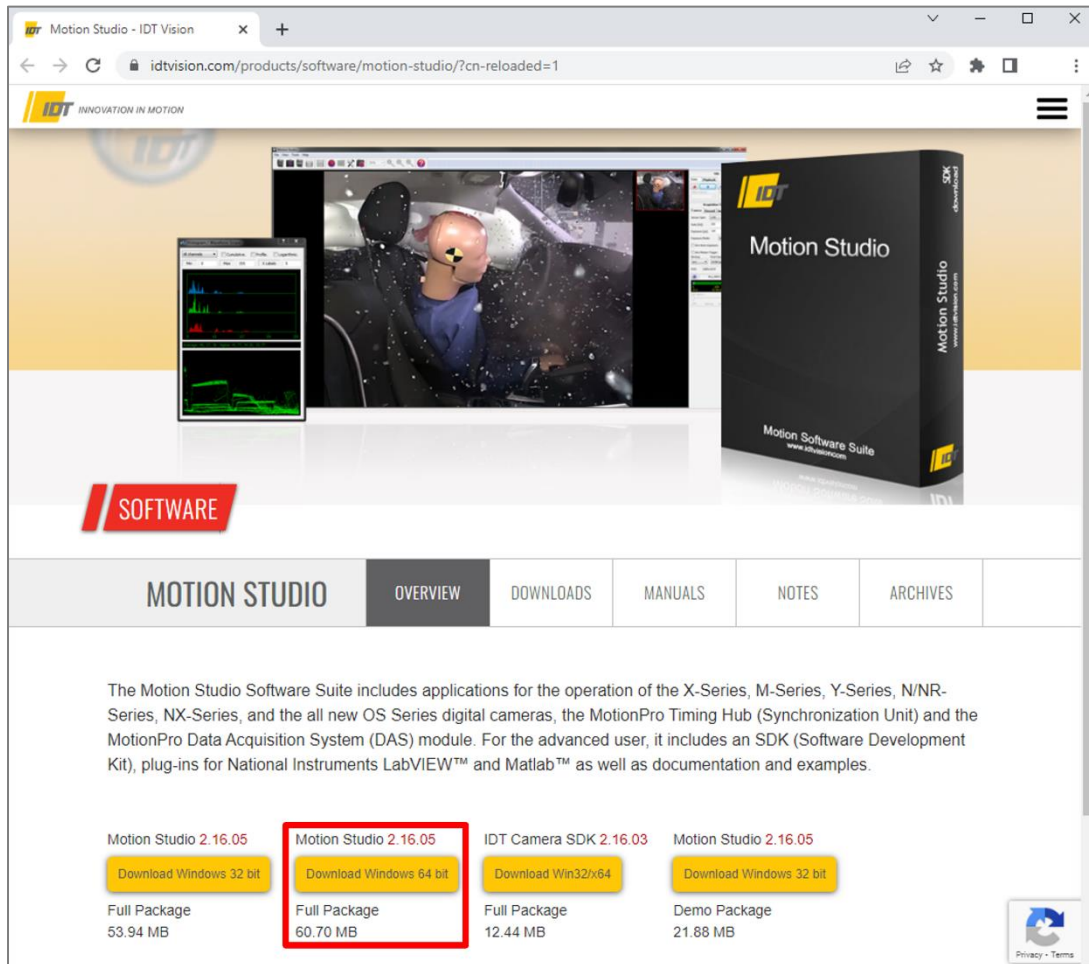

Fig. 9: IDT website with available software downloads (screenshot taken on 04/25/22).
- 2) Scroll down until you see the yellow download links. Select the Full Package of the Motion Studio 2 download for your operating system (e.g., "Download Windows 64 bit" in **Fig. 9**).